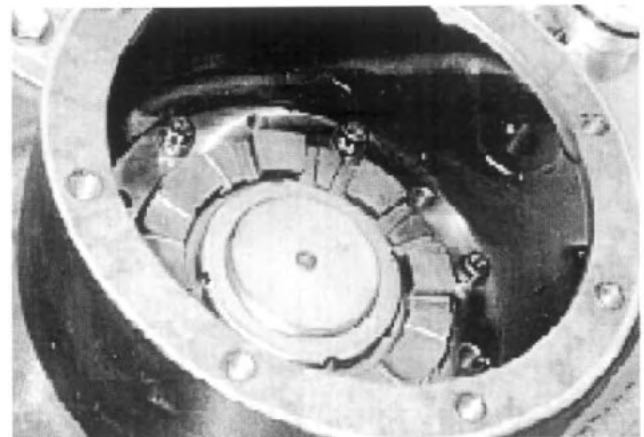

Fig. 18
19. Using special tool # 866 687 006, remove the bearing lock nut from the front of the lower shaft. *See Figs. 18 & 19.*